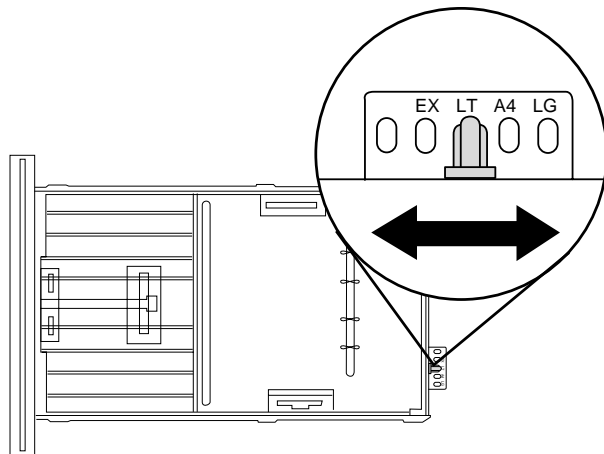

Fig. 5.1 Set the Cassette Size Key
2. Make sure the cassette size key (the slide on the back end of the cassette) is set for the media size that you’re loading (fig. 5.1).